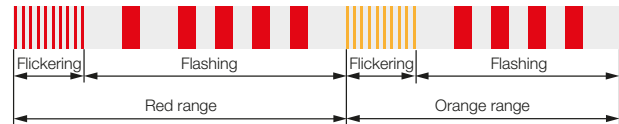

Fig. 8-2: Optical signaling of multiple errors
In the example shown by Fig. 8-2 Warning 1 and Warning 4 is in the red range. Warning 4 is in the orange range.
- Red range in Fig. 8-2
- Orange range in Fig. 8-2